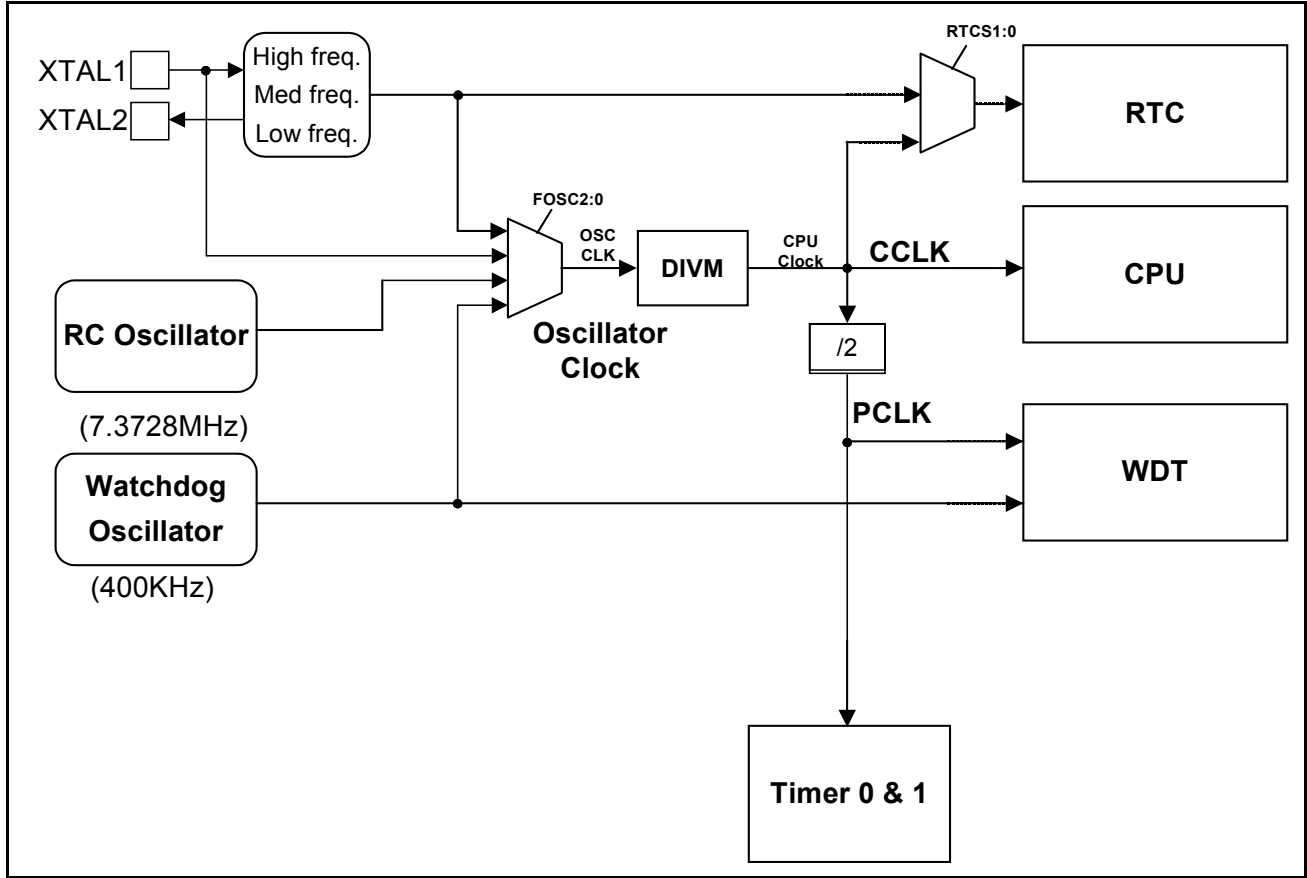
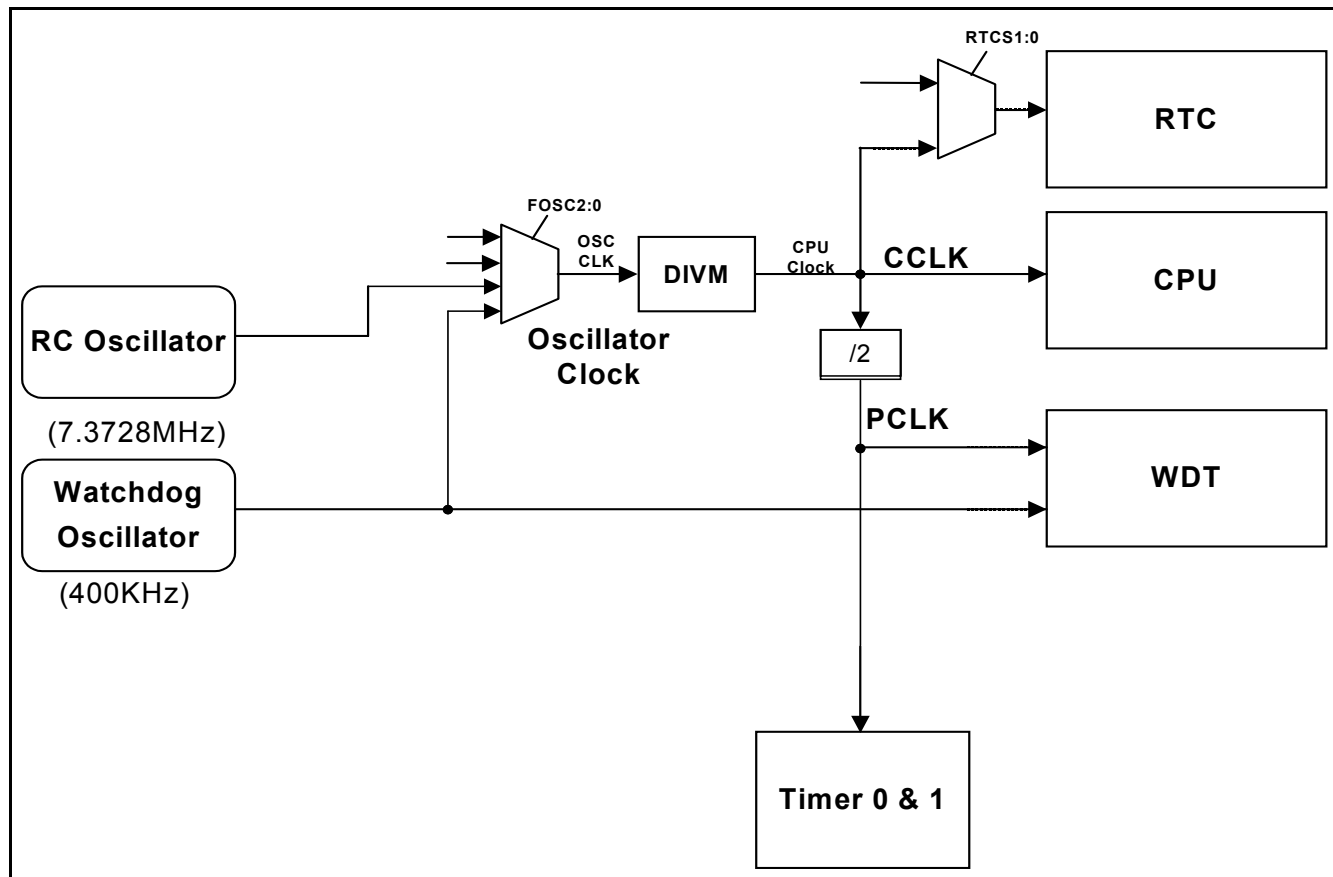
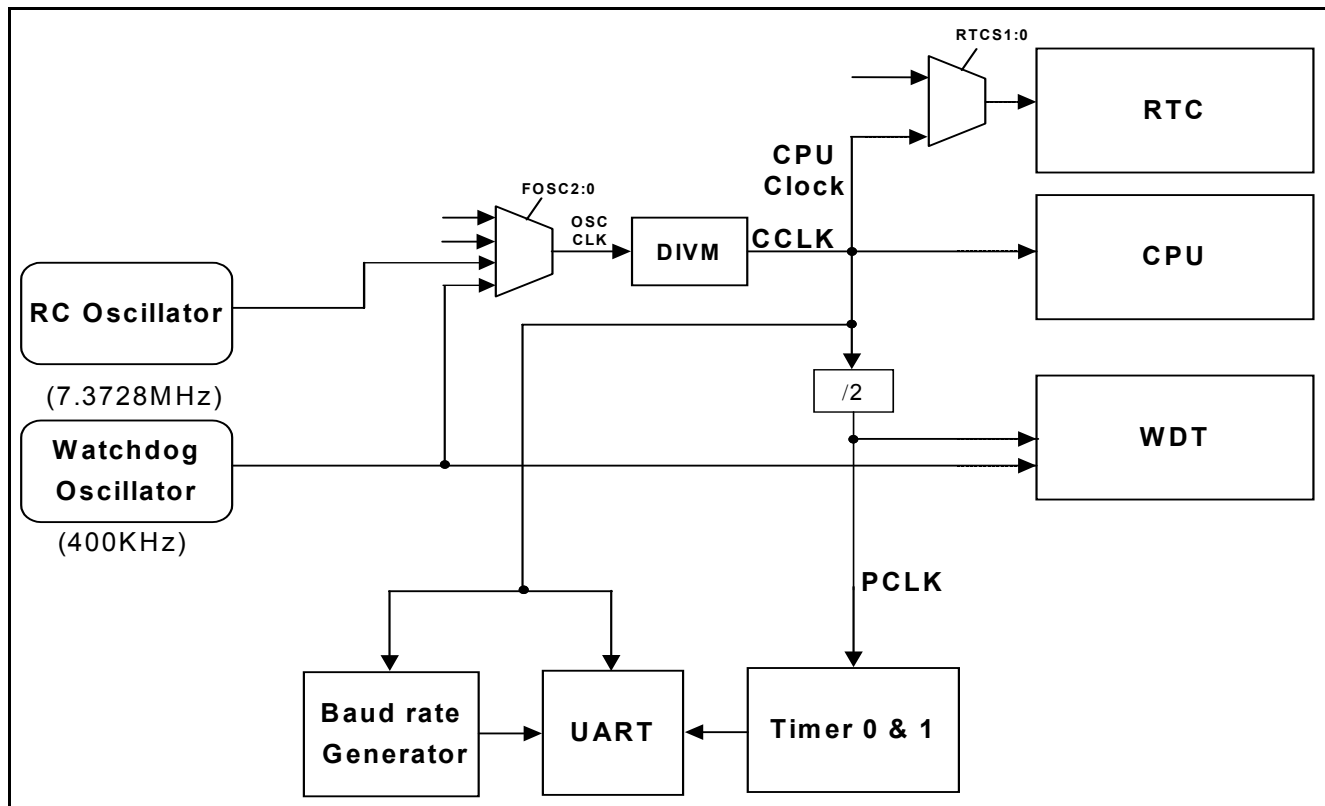

Figure 2-3: Block Diagram of Oscillator Control - P89LPC901
Figure 2-4: Block Diagram of Oscillator Control - P89LPC902
Figure 2-5: Block Diagram of Oscillator Control- P89LPC903
- OSCCLK - Input to the DIVM clock divider. OSCCLK is selected from one of the clock sources (see Figure 2-3, Figure 2-4, Figure 2-5) and can also be optionally divided to a slower frequency (see section "CPU Clock (CCLK) Modification: DIVM Register"). **Note:**  $f_{OSC}$  is defined as the OSCCLK frequency.